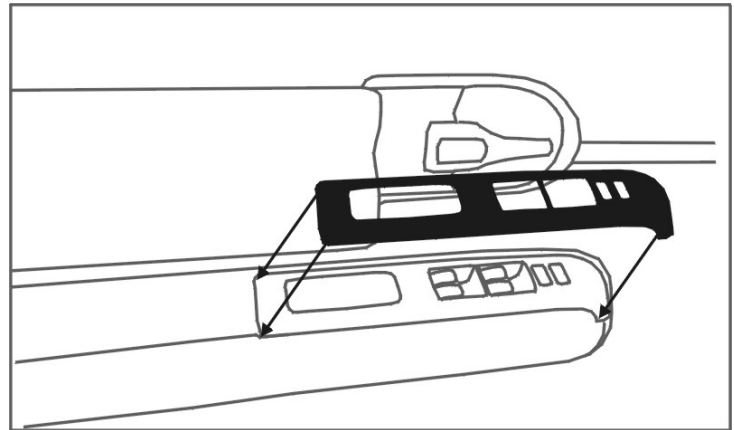

Fig. 2
(1) Align part uniformly to edge of factory component. Fig. 2
(2) Gently touch part into position.
(3) Edge of appliqué should be flush to edge of factory component, +/- 1.0mm.
(4) Once positioned, press part firmly into place by applying finger pressure. Pressure is required for adequate bond to factory component.